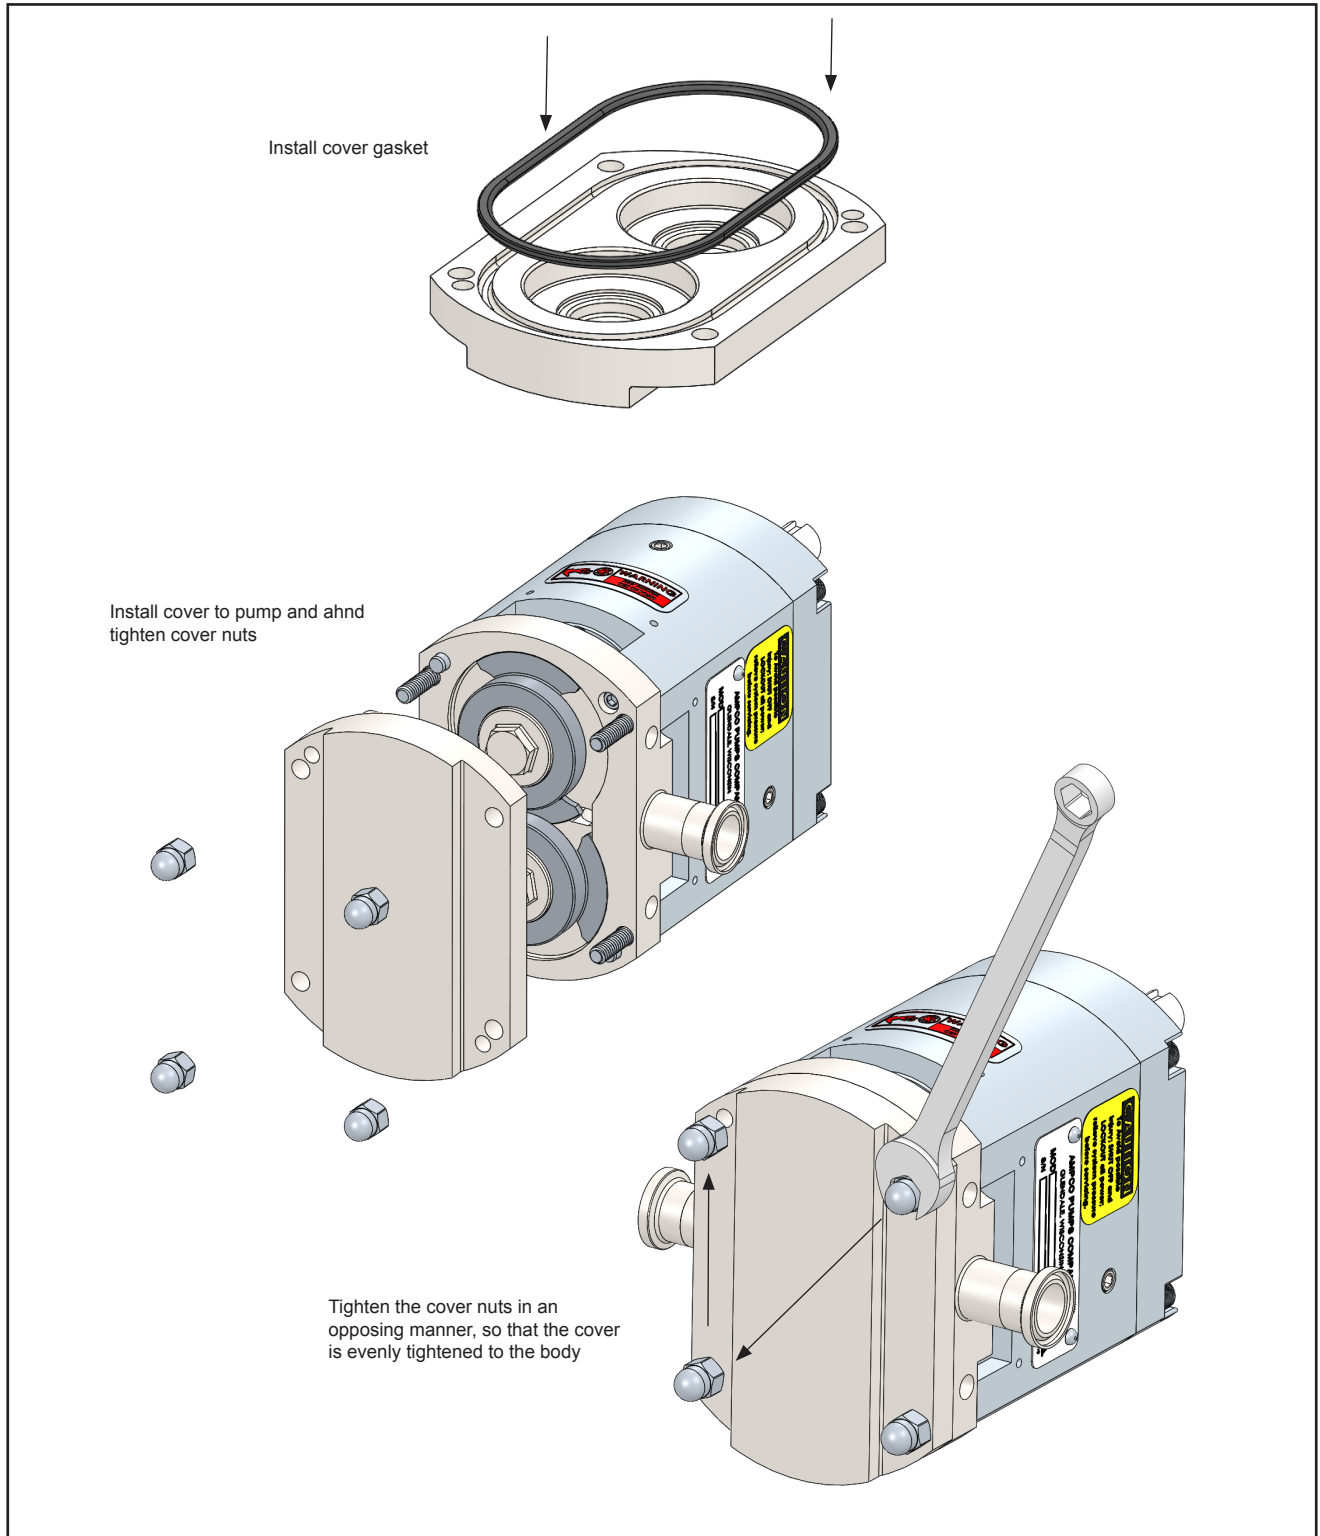

Figure 50. Installing Cover Assembly
3. Install the new cover o-ring and slide the cover over the studs making sure that the dowels in the body are aligned with the correct dowel holes in the cover (*Figure 50*). Visually inspect to ensure that the cover o-ring remained in place. Turn the cover nuts (clockwise) by hand and fully tighten them by using the appropriate wrench. Tighten the rotor nuts in an opposing manner as seen in *Figure 50*, so that the cover is evenly tightened to the body.